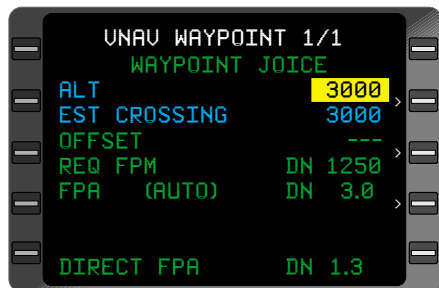

Figure 3-125
3. **VNAV** Key - DEPRESS. The **VNAV WAYPOINT** Page appears with the cursor over the **ALT** field. (Figure 3-125)